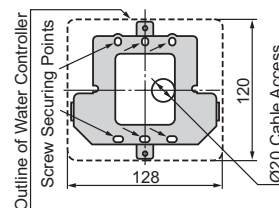

Fig.1
2. Use the wall mounting bracket as a template to mark and drill 3 holes, locating the cable access as shown in Fig. 1.